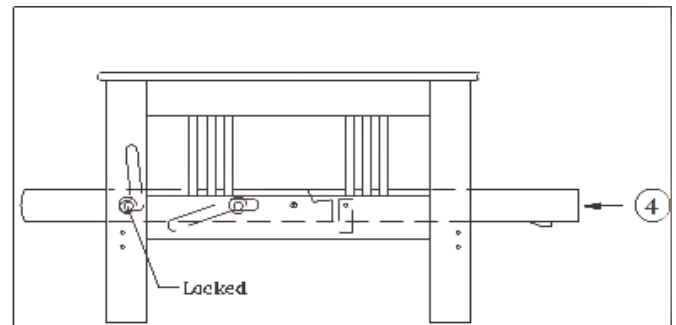

Figure 2
- 4) Push seat section back (about an inch) so that it locks into the bed position (Figure 2)